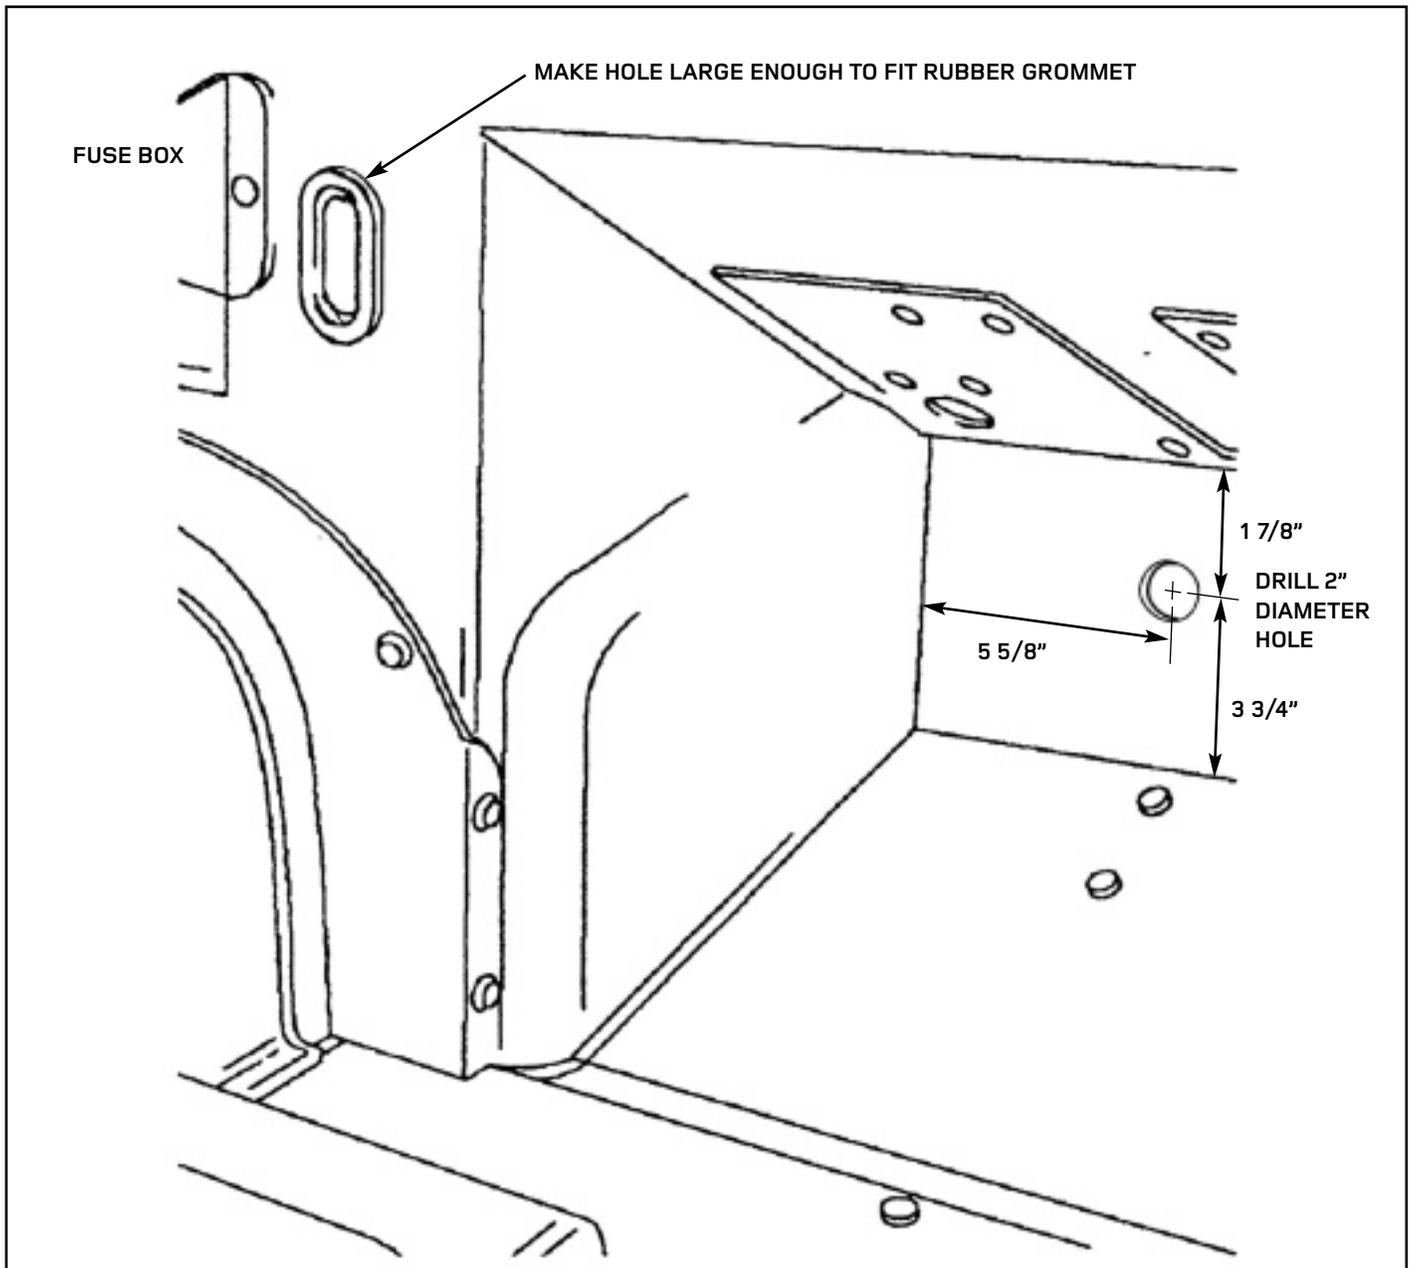

FIGURE 7
4. **Locate the oval firewall rubber plug** on the right side of the fuse box and modify to allow the four prong white connector on the supplied A/C harness to pass through (see figure 7, page 8).
5. **Drill a 2" diameter hole** in the footwell to allow for evaporator tube (see figure 7, page 8).
6. **Fit 2" grommet** supplied into drilled footwell hole (see figure 7, page 8).